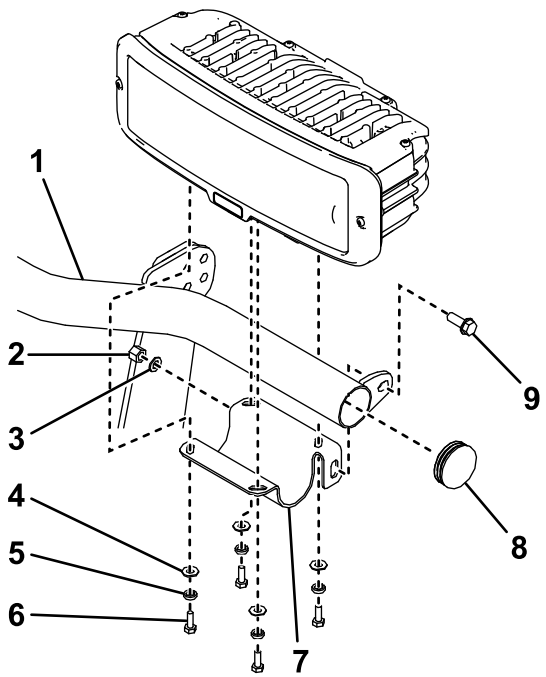

Figure 15
- Ensure that the end caps are installed on the ends of the light bar (Figure 15).
- Secure the left headlight-bracket to the light bar using a flange-head bolt (3/8 x 1 inch), a flat washer, and a nylon locknut (Figure 15).
- Secure the left headlight to the headlight bracket using 4 bolts (1/4 inch), split lock washers, and flat washers (Figure 15).